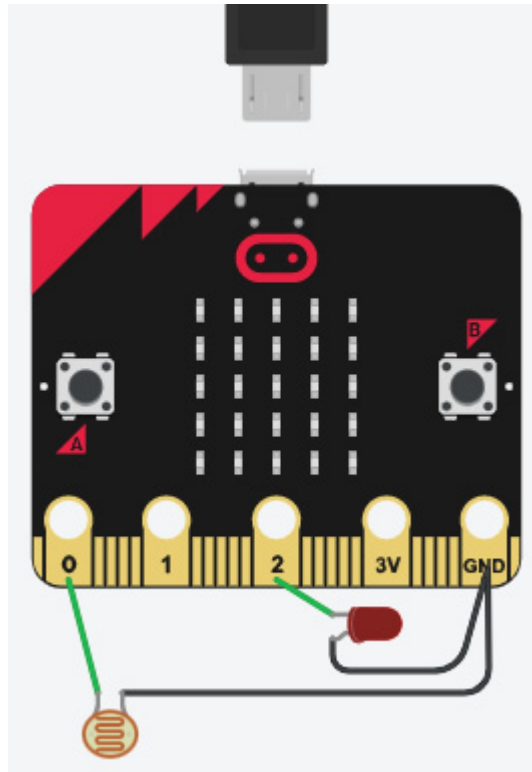

Figure 9.5 – Connecting an LDR and an LED to the micro: bit
*Figure 9.5* shows a connection of the photoresistor to the Micro:bit: